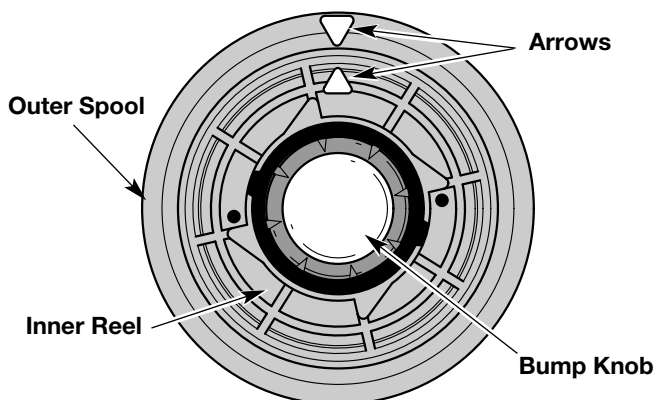

Fig. 8
2. Hold the outer spool and turn the inner reel counterclockwise to line up the arrows on the outer spool and inner reel (Fig. 8).